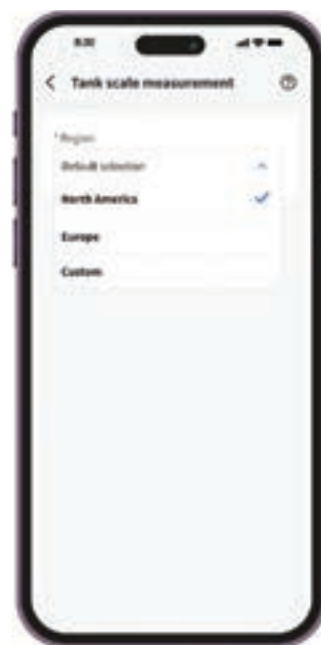

Fig. 12
- Open the Napoleon® Home App and go to the Tank Scale section (**Fig. 12**).